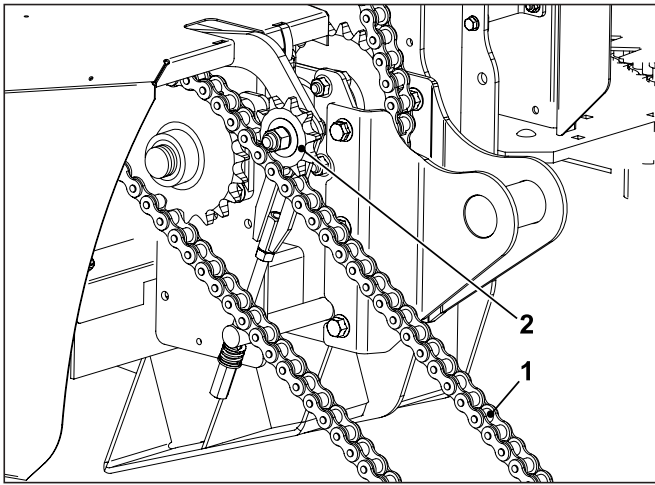
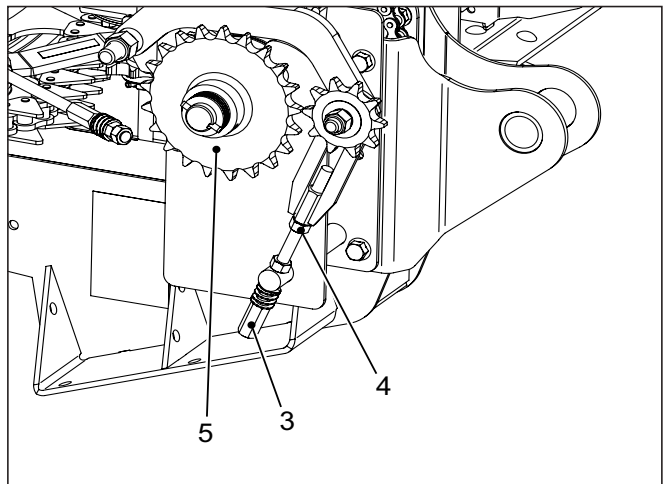

Figure 18 Installing the drive chain
Figure 19 Drive chain tension
9. Install the rotary corn attachment drive chain (item 1, figure 18). Use the #60 X 36 3/4" lg (93cm) chain with a #60 connecting link (1) or a #80 X 37" chain, depending on the Forage Harvester configuration.
NOTE: The #80 sprocket is standard on the attachment. As for the #60 sprocket, it must be specified when machine is ordered (item 5, figure 19).
10. Adjust the Forage Harvester lifting arms in operating position. Bring the chain underneath the tightening sprocket (item 2, figure 18) as shown. Align the drive chain. Adjust the chain to a normal tension, loosen nut (item 4, figure 19), tighten tightener nut (item 3, figure 19) then tighten nut (item 4, figure 19).
NOTE: This same adjustment must also be carried out on the input chain tightener spring (Figure 19).